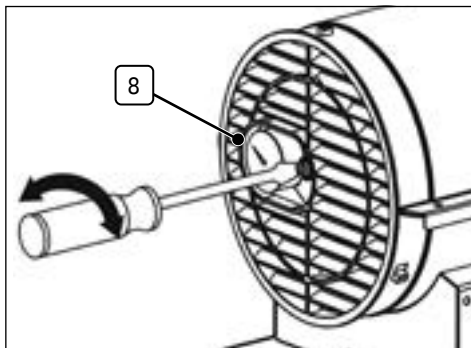

Fig. 5
To add fuel to the heater (Fig.5):
9.7 Pump Pressure Adjustment (Fig.5)
- While heater is operating, turn relief valve clockwise to increase and anticlockwise to decrease the pressure shown on the gauge (8). Use a flat blade screwdriver to turn valve.